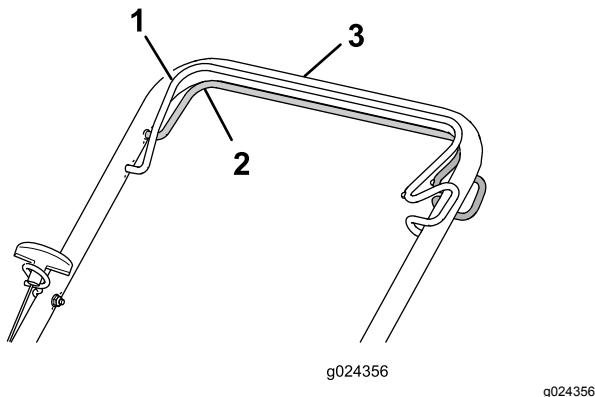

Figure 16
- **To engage the self-propel-drive:** Pull the self-propel-drive bar to the handle and hold it (Figure 16).